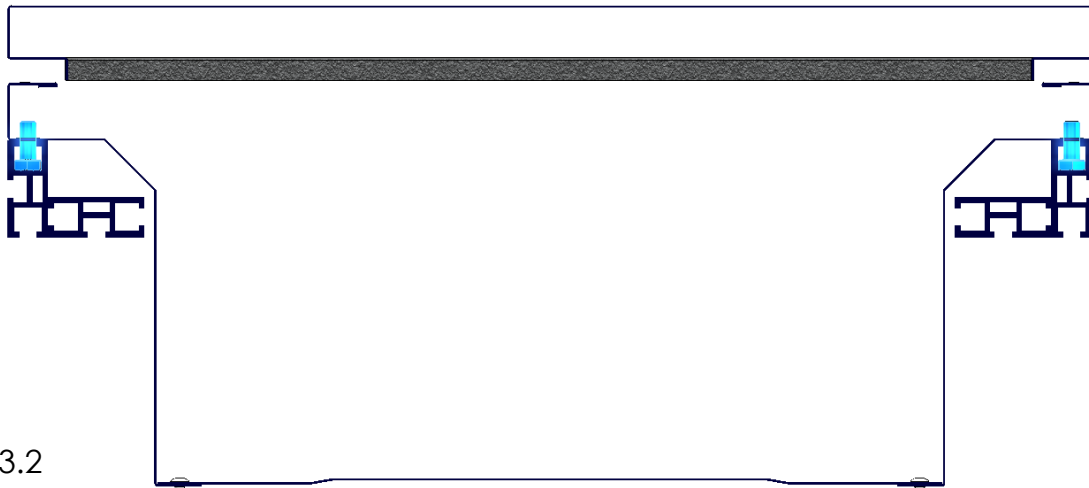

Fig. 2.3.2
- Place the lock box into the ammo box rack with the screws entering the dedicated fitment holes. Fig. 2.3.2